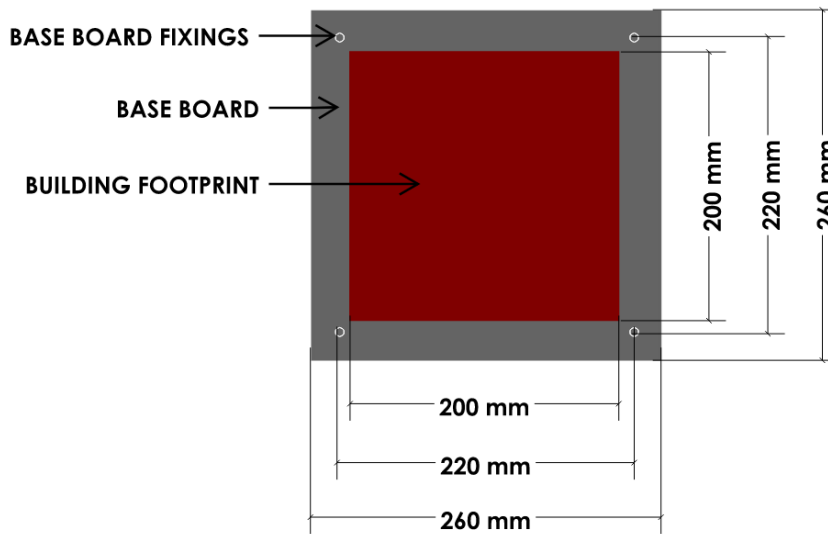

Figure 2: Definition of building footprint and base board
- The allowable site area is the 200 mm × 200 mm square shown as the dotted lines in Figure 2. The projection of the entire model onto the base board must be within 200 mm × 200 mm.
- Teams need to drill through-holes in the model base to accommodate M6 bolts, such that the model can be fixed to the model mounting board on the day of the competition. Bolt holes are to be 220 mm centres apart. Refer Figure 2 for clarity.